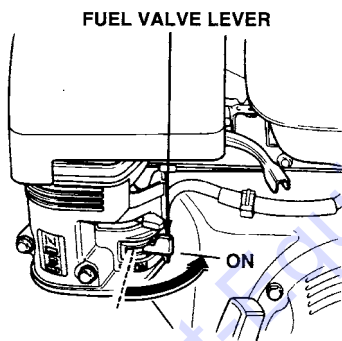

Figure 12. Fuel Shut-Off Lever
1. Move the fuel shut-off lever (Figure 12) to the ON position.